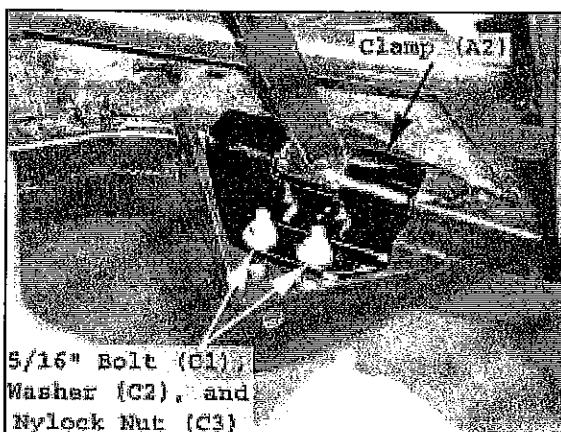

Figure 6 Attach Left Clamp
4. Attach a Clamp (A2) to the left side of the vehicle using 5/16" dia-1" long bolts (C1), 5/16" washers (C2), and 5/16" nylock nuts (C3) for both holes as shown in Figure 6. Tighten nuts and bolts securely.